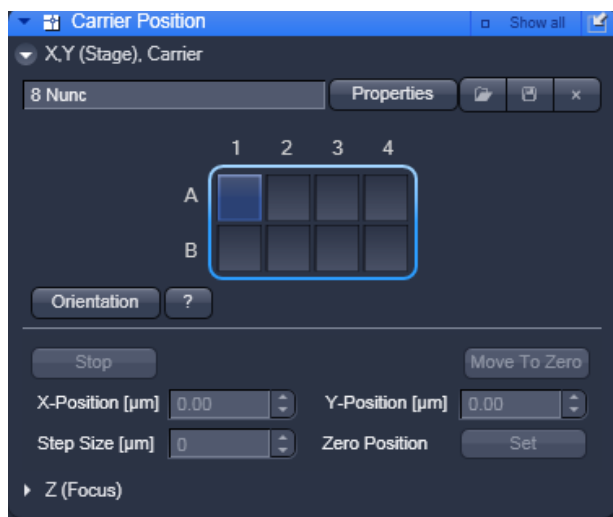

Fig. 9-8 Carrier Position in pro mode with Speed settings and Marks opened
- Press the X,Y (Stage) tab to open the (X,Y) Stage tool box (Fig. 9-8). Press the tab again to close the box.
- If you want to edit a pre-existing carrier or want to create a new one press the **Properties** button (Fig. 9-8) to open the **Properties** window.
The **Compass Rose** allows you to move the scanning stage in the direction of the arrows that will become visible, when the mouse moves over a section (see Fig. 9-8).